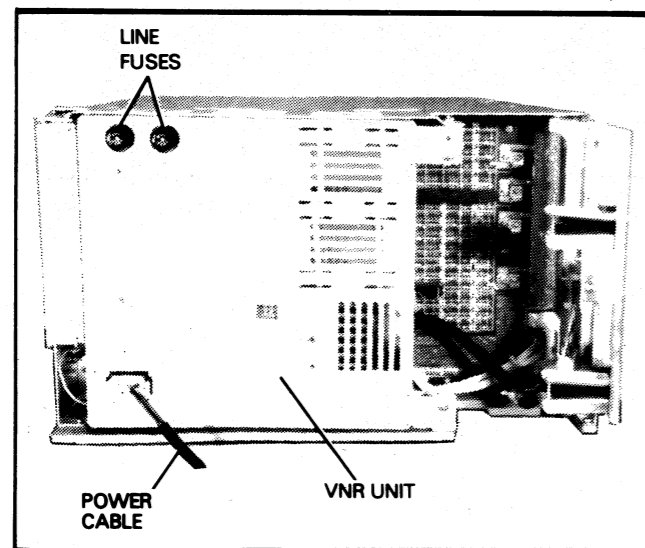

Figure 6.6 Line Fuses
13. Check the two 15 Amp ac line fuses which screw into the upper left rear corner of the VNR unit (see Figure 6.6).